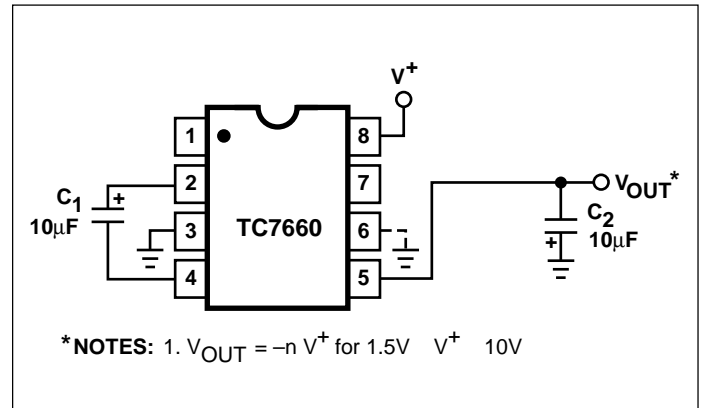
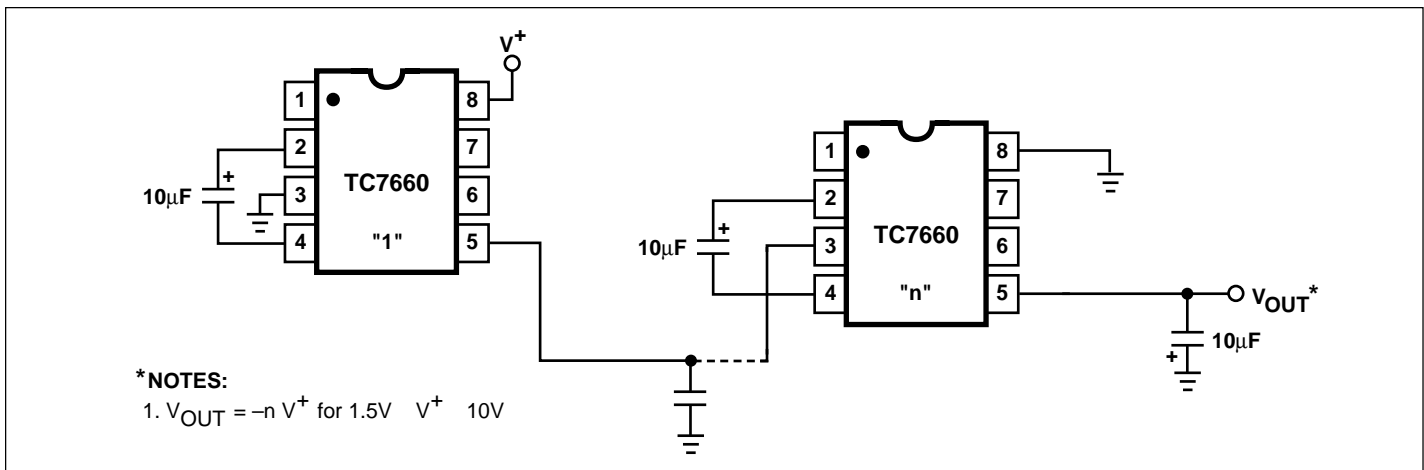
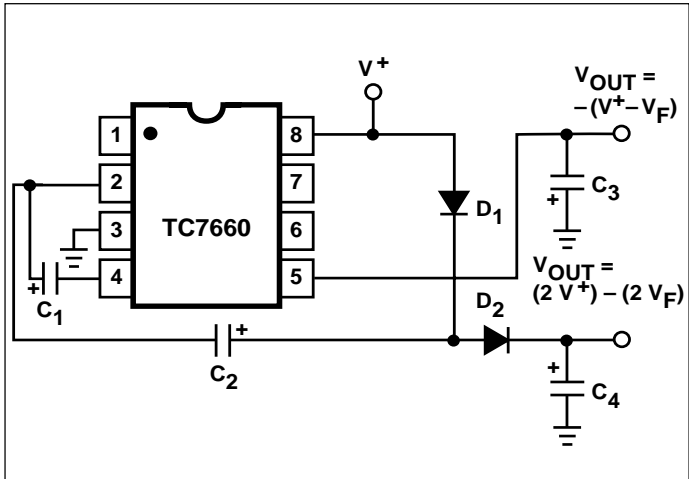
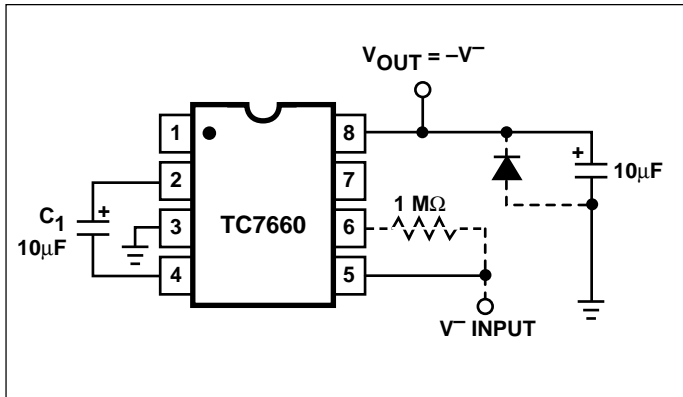

Figure 3. Simple Negative Converter
Figure 5. Increased Output Voltage by Cascading Devices
Figure 9. Combined Negative Converter and Positive Multiplier
Figure 10. Positive Voltage Conversion
Figure 3 shows typical connections to provide a negative supply where a positive supply is available. A similar scheme may be employed for supply voltages anywhere in the operating range of +1.5V to +10V, keeping in mind that pin 6 (LV) is tied to the supply negative (GND) only for supply voltages below 3.5V.
The output characteristics of the circuit in Figure 3 are those of a nearly ideal voltage source in series with 70Ω . Thus, for a load current of -10mA and a supply voltage of $+5\text{V}$, the output voltage would be -4.3V .
Figure 9 combines the functions shown in Figures 3 and 8 to provide negative voltage conversion and positive voltage multiplication simultaneously. This approach would be, for example, suitable for generating +9V and -5V from an existing +5V supply. In this instance, capacitors C_1 and C_3 perform the pump and reservoir functions, respectively, for the generation of the negative voltage, while capacitors C_2 and C_4 are pump and reservoir, respectively, for the multiplied positive voltage. There is a penalty in this configuration which combines both functions, however, in that the source impedances of the generated supplies will be somewhat higher due to the finite impedance of the common charge pump driver at pin 2 of the device.
Since the switches that allow the charge pumping operation are bidirectional, the charge transfer can be performed backwards as easily as forwards. Figure 10 shows a TC7660 transforming -5V to +5V (or +5V to +10V, etc.). The only problem here is that the internal clock and switch-drive section will not operate until some positive voltage has been generated. An initial inefficient pump, as shown in Figure 9, could be used to start this circuit up, after which it will bypass the other (D_1 and D_2 in Figure 9 would never turn on), or else the diode and resistor shown dotted in Figure 10 can be used to "force" the internal regulator on.
The same bidirectional characteristics used in Figure 10 can also be used to split a higher supply in half, as shown in Figure 11. The combined load will be evenly shared between the two sides. Once again, a high value resistor to the LV pin ensures start-up. Because the switches share the load in parallel, the output impedance is much lower than in the standard circuits, and higher currents can be drawn from the device. By using this circuit, and then the circuit of Figure 5, +15V can be converted (via +7.5V and -7.5V) to a nominal -15V, though with rather high series resistance (~250Ω).